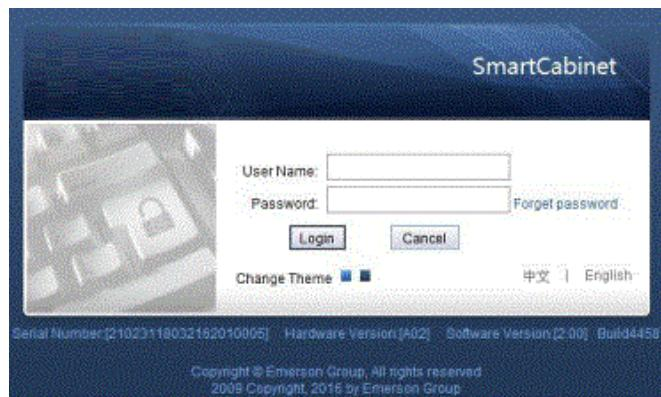

Figure 4-36 Ocean Blue theme
3. If the ocean blue theme is selected, the screen color changes as shown in Figure 4-36.